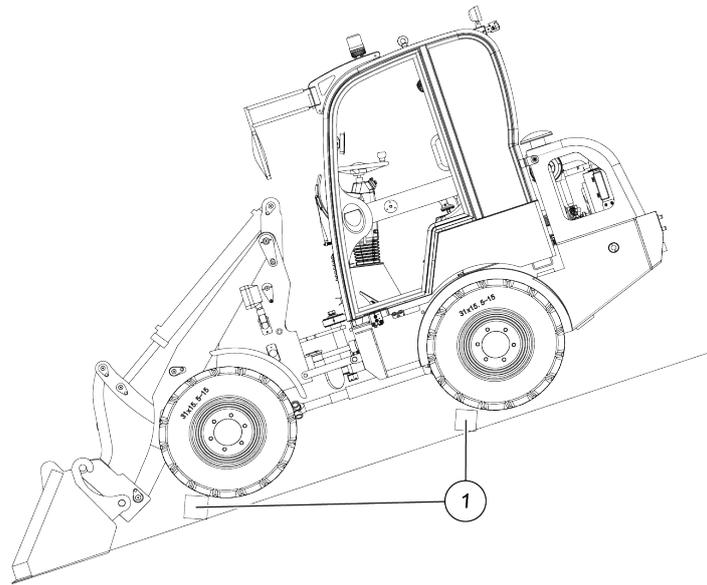

Figure 3-18 Parking on slope
(1) Park loader on ground as flat as possible, lower and level work accessory.
(2) Avoid parking on a slope. If need to park, put stop under wheel and lower bucket to ground to prevent loader from moving, as shown in Figure 3-18.